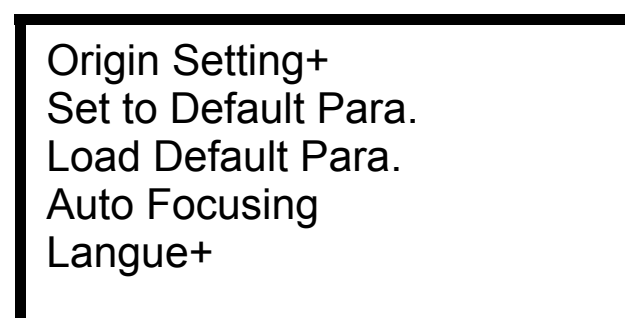

Figure: 8.2-9
5) After the “Set to Default Para” in Figure 8.2-9 is selected and the Enter key pressed, the interface will show the specific password to be entered when set as default parameter. After the manufacturer regulates all parameters of the machine well (including all manufacturer parameters and user parameters), this function can be used to store the well-regulated parameters to help users to recover the original parameters (including all manufacturer parameters and user parameters) through selecting “Load Default Para” when they regulate parameters improperly.
6) After the “Load Default Para” in Figure 8.2-9 is selected and the Enter key pressed, the “Successful Recovery” dialog box will pop up to prompt that all manufacturer parameters and user parameters are recovered successfully. You can return to the previous menu by press the Enter key.